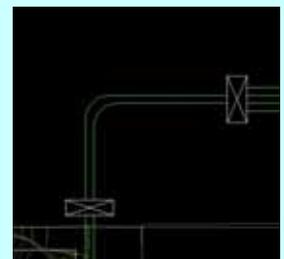

Fig.2-2
- 3) Press Enter key, then at the turning points of the hose lines are changed to round shape (Fig.2-2).